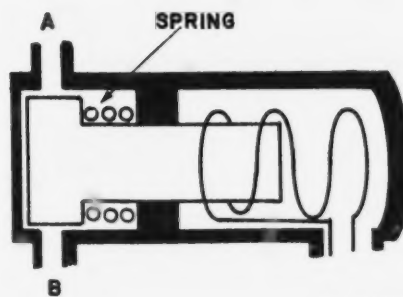

Figure 1-30. Simple electrical shutoff valve.
Electrical Valves. Many of today's hydraulic valves are operated or controlled by electromagnetism as are relays and certain types of meters. For us, the most important use of this action is in the hydraulic valve. Hydraulic valves are made in many different sizes and shapes and used for various purposes. The valve shown in figure 1-30 is a simple shutoff valve. The coil (solenoid) is wrapped around the spool, which when energized creates a magnetic field. Energizing the coil draws in the spool, which compresses the spring. This allows the fluid entering port A to exit through port B. As long as the coil is energized the valve will maintain in this position. Once the coil is deenergized, the spring forces the spool to block off port A, thus, stopping the flow of fluid from port B. This is just a simple explanation of the use of electromagnetism in a hydraulic valve.
1. In the valve shown in figure 1-30, how is the spool positioned to let fluid flow from port A to port B?